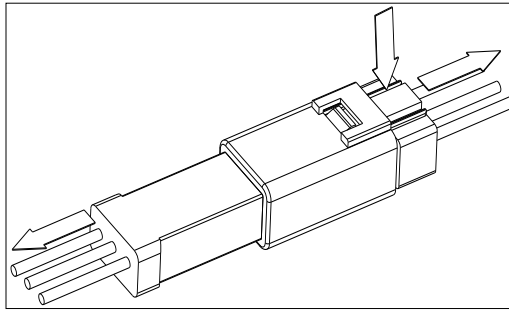

Figure 8-2 Disconnect Watertight Cable Connector
2. Disconnect the watertight cable connector from the cooling fan (Figure 8-2):